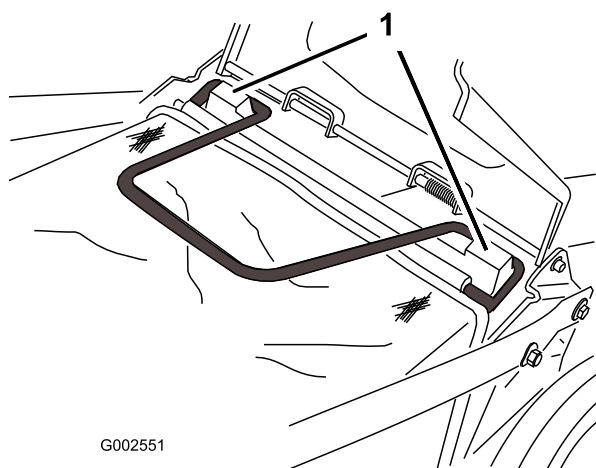

Figure 20
3. Install the bag on the bag mounting posts (Figure 20).